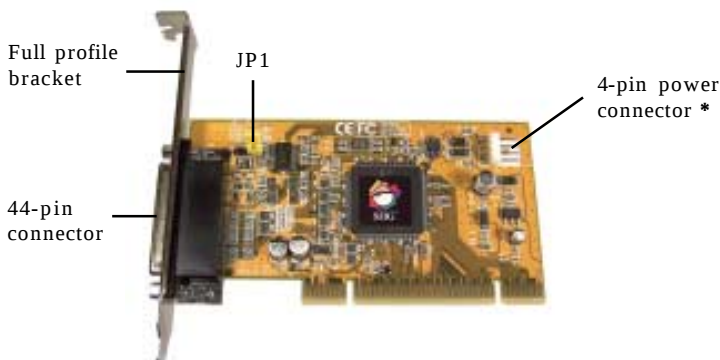

Figure 1. Layout
7. Connect the system power supply to board's 4-pin power connector. This connection is **optional**, see **Figure 1** on page 2 for more information.